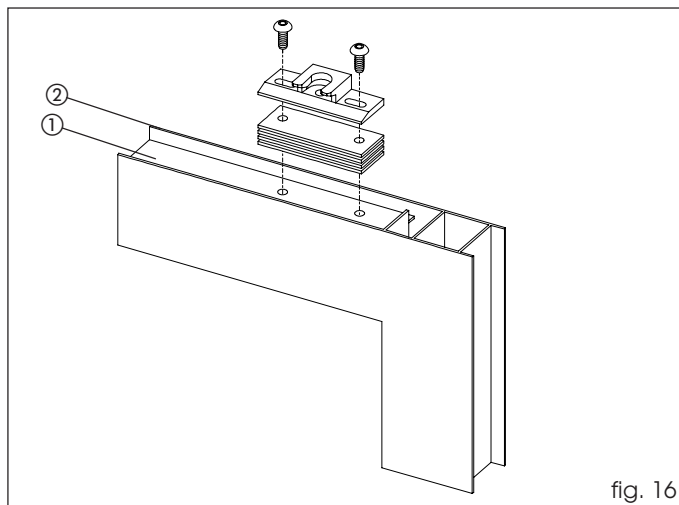

fig. 16
If the surface for securing the block (fig. 16 ref. ①) is lower than the highest point of the leaf (fig. 16 ref. ②), use the supplied spacers to take the block to the same level.